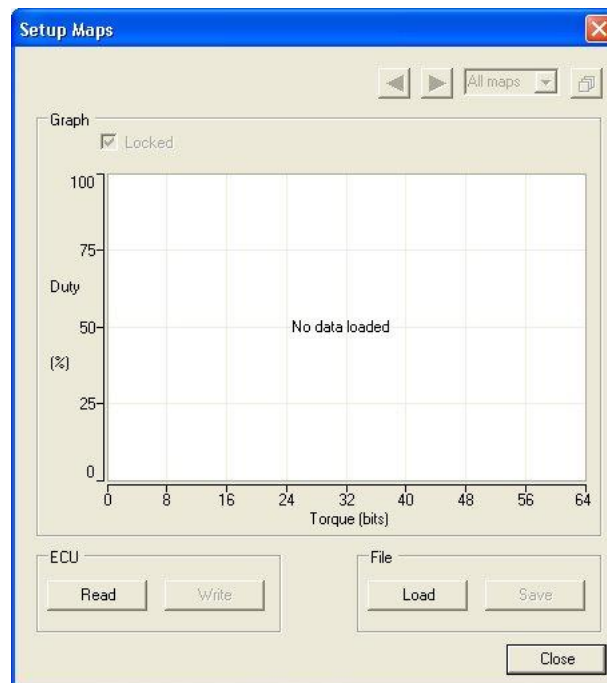

Figure 8 - Setup Maps Dialog (No Maps)
1. Select the **Setup** → **Maps** option from the main menu. The Setup Maps dialog (Figure 8) is displayed.